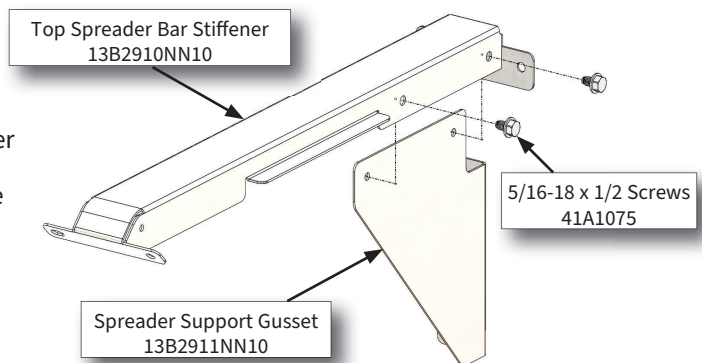

Figure 31: Spreader Support Gusset
2. Position & install the spreader support gusset 13B2911NN10 to the top spreader bar stiffener 13B2910NN10 (Figure 31) using (2) 41A1075 screws. Spreader support gusset attach on the inside of the channel of top spreader bar stiffener.